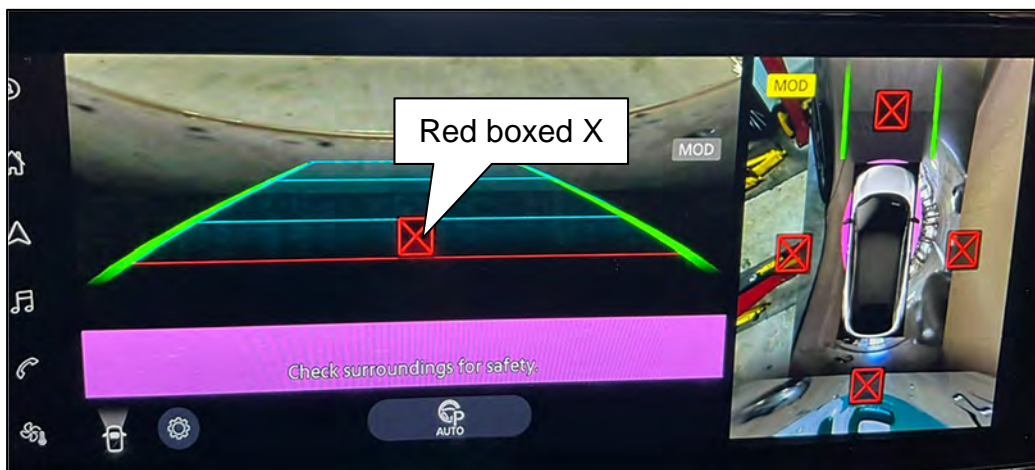

Figure 11
HINT: All four (4) cameras in Figure 11 require calibration.